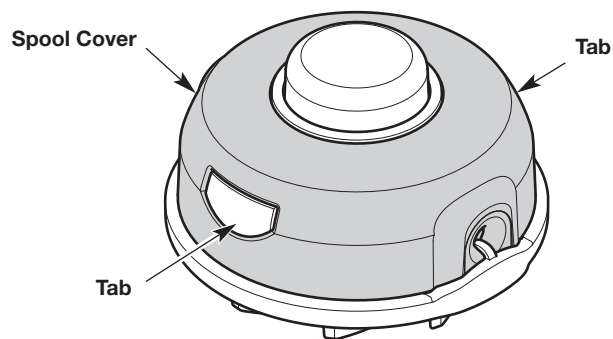

Fig. 19
1. Firmly press both tabs to unlock the spool cover (Fig. 19). **DO NOT** press the tabs with a screwdriver or other object.